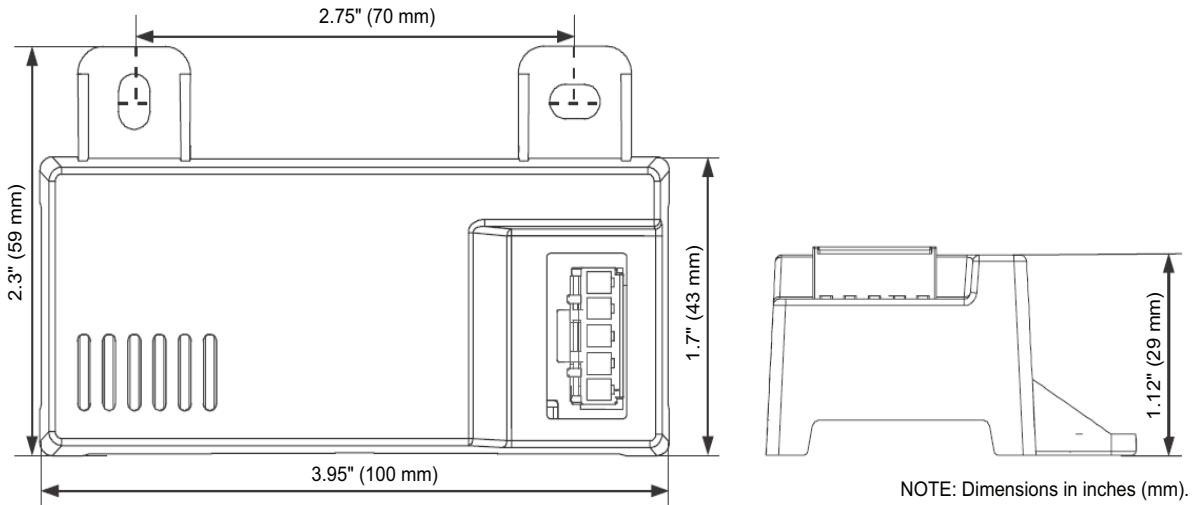
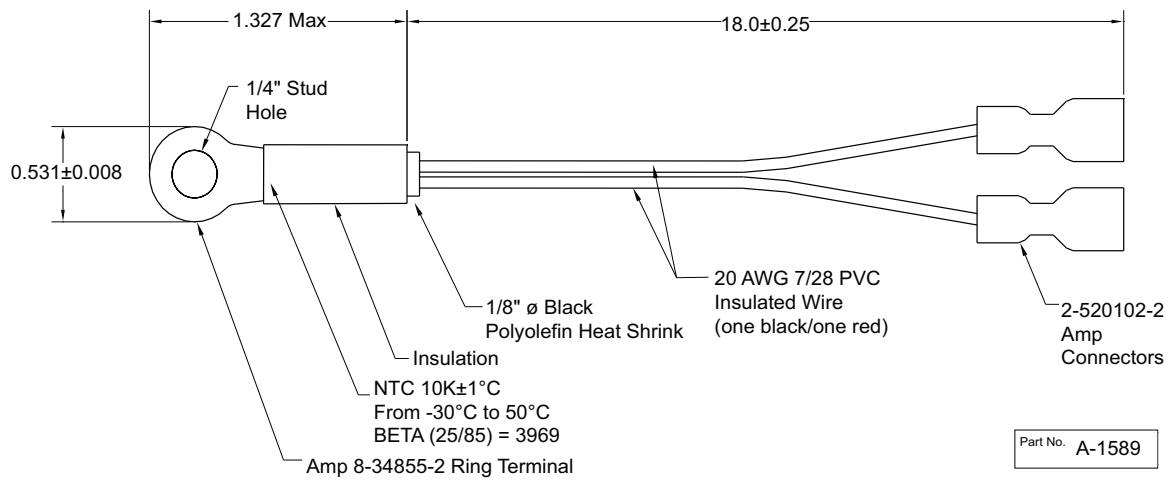
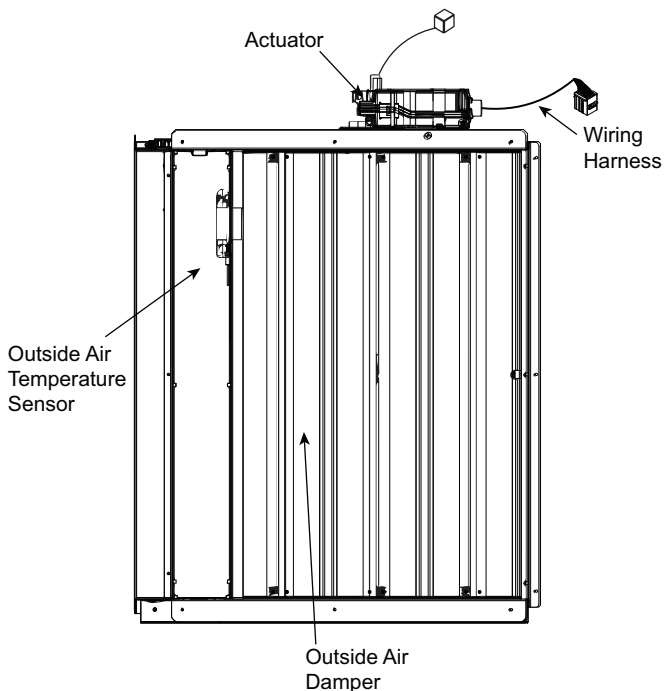

Fig. 65 — HH57LW001 Dimensional, Connection and Switching Information
Fig. 66 — HH79NZ039 Dry Bulb and Mixed Air Sensor Wiring
Fig. 67 — EconomizerONE Component Locations (CRECOMZR108A00 Shown)
When using the HH57LW001 enthalpy sensor (see Fig. 65) for outside air changeover, the existing HH79NZ039 dry bulb sensor (see Fig. 66) must be removed. The enthalpy sensor will be mounted in the same location as the dry bulb sensor (see Fig. 67). When the enthalpy sensor's OA (Outside Air) temperature, enthalpy, and dew point are below their respective setpoints, the outside air can be used for free cooling. When any of these are above the setpoint, free cooling will not be available. Enthalpy setpoints are configurable and create an enthalpy boundary according to the user's input. For additional details, see Fig. 68-69 and Table 27.
The optional enthalpy control sensor (P/N: HH57LW001) communicates with the POL224 economizer controller using the 5-wire harness, 48TC005213. The HH57LW001 sensor can be used as a single outside air enthalpy, a differential return enthalpy, or a differential return temperature sensor. Refer to the base unit control wiring diagrams found earlier in this book to wire the HH57LW001 enthalpy sensor for each option. Use Fig. 65 and Table 29 on page 52 to locate the wiring terminals for each enthalpy control sensor.
Economizers are shipped standard with an HH79NZ039 outside air dry bulb sensor (see Fig. 66). System default setting (high temp limit) is 63°F (17°C) and has a range of 48°F to 80°F (9°C to 27°C). Sensor is factory installed on economizer.
If installing the optional HH57LW001 enthalpy sensor, the HH79NZ039 dry bulb outside air sensor must first be removed. Wire sensor to harness 48TC005213 and the (5) wires from the harness to the EconomizerONE harness in the return air chamber. Harness 48TC005213 has a 5-pin plug that connects directly to the HH57LW001 enthalpy sensor. Refer to the base unit control wiring diagrams earlier in this book for wiring connections. Refer to Fig. 65 and Table 29.